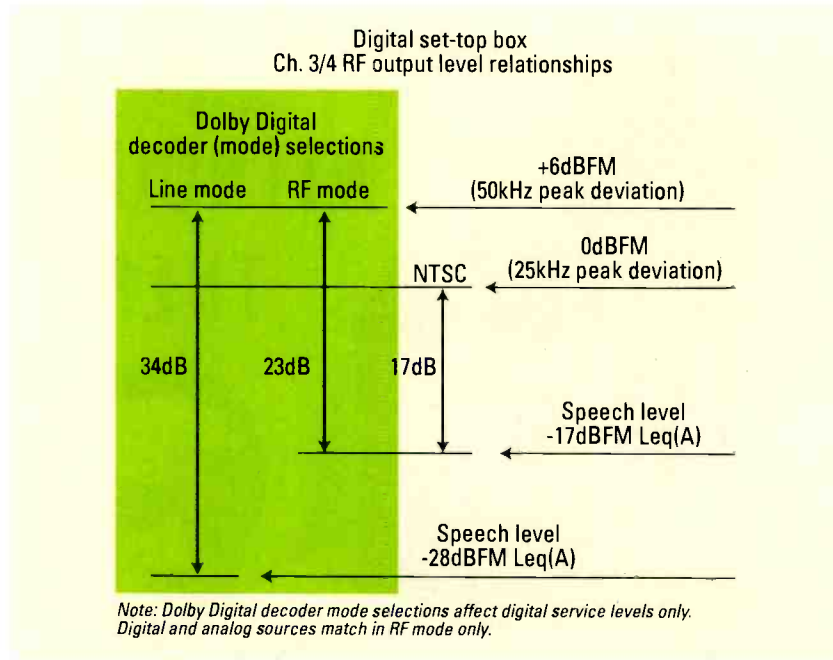

Figure 1. Analog adjusted so that the level of speech is about -17dB FM
To illustrate this point, Figure 1 on page 56 shows the proper level relationships between the output of the Dolby Digital (AC-3) decoder and the NTSC tuner/demodulator for
the modulated RF output of a typical digital STB used in North American for DTV and digital cable. In Figure 1, notice that the NTSC scale has a maximum value of 0dBm and that this level is equivalent to 100 percent modulation as per FCC rules (that is, 25kHz peak deviation), and the Leq(A) dialogue level is shown to be at 17dB below 100 percent modulation. This value (-17dBm) indicates the ratio between the maximum program peaks and the average Leq(A) dialogue level. Why -17dBm Leq(A)? Measurements taken over the years have shown that the equivalent loudness of dialogue (A-weighted) for NTSC broadcasts is typically
For digital sources, the Dolby Digital (AC-3) decoder can typically be operated in two modes: line and RF. In many cases, these modes can be controlled by the viewer. If we refer to the decoder mode selections in Figure 1, we see that the maximum permissible level of +6dBm (equivalent to 200 percent modulation → 50kHz peak deviation) for Dolby Digital (AC-3) sources is available at the channel 3/4 RF remodulated output.